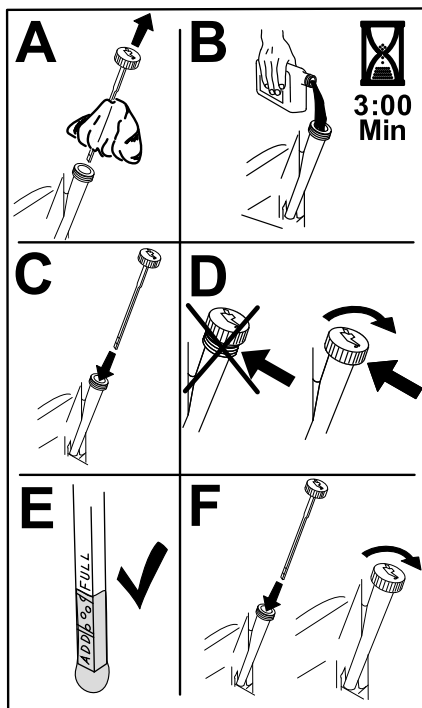

Figure 36
5. Slowly pour approximately 80% of the specified oil into the filler tube and slowly add the additional oil to bring it to the **Full** mark (Figure 36).
3. Fill the crankcase with the proper type of new oil (Figure 36).